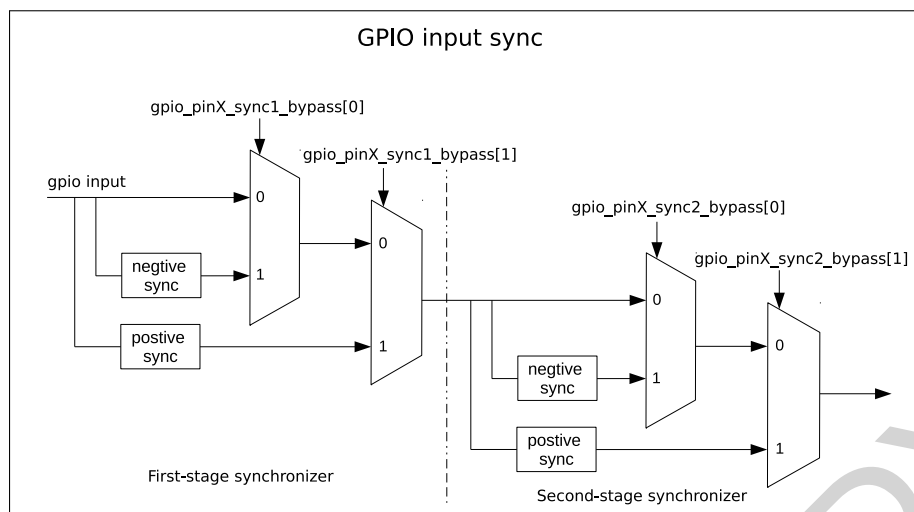

Figure 4-4. GPIO Input Synchronized on APB Clock Rising Edge or on Falling Edge
Figure 4-4 shows the functionality of GPIO SYNC. In the figure, negative sync and positive sync mean GPIO input is synchronized on APB clock falling edge and on APB clock rising edge, respectively.
- Set `GPIO_PIN x _SYNC1_BYPASS` to enable input signal synchronized on rising edge or on falling edge in the first clock, see Figure 4-4.
- Set `GPIO_PIN x _SYNC2_BYPASS` to enable input signal synchronized on rising edge or on falling edge in the second clock, see Figure 4-4.